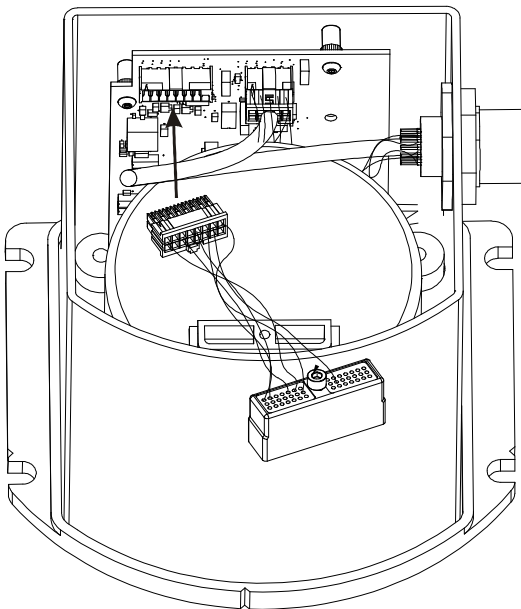

Figure 80: Attach Samtec Connector
2. Connect the Samtec connector at the other end of the wiring harness to the corresponding connector on the internal IMU card, as shown in *Figure 80*. Ensure that the connector is locked in place.